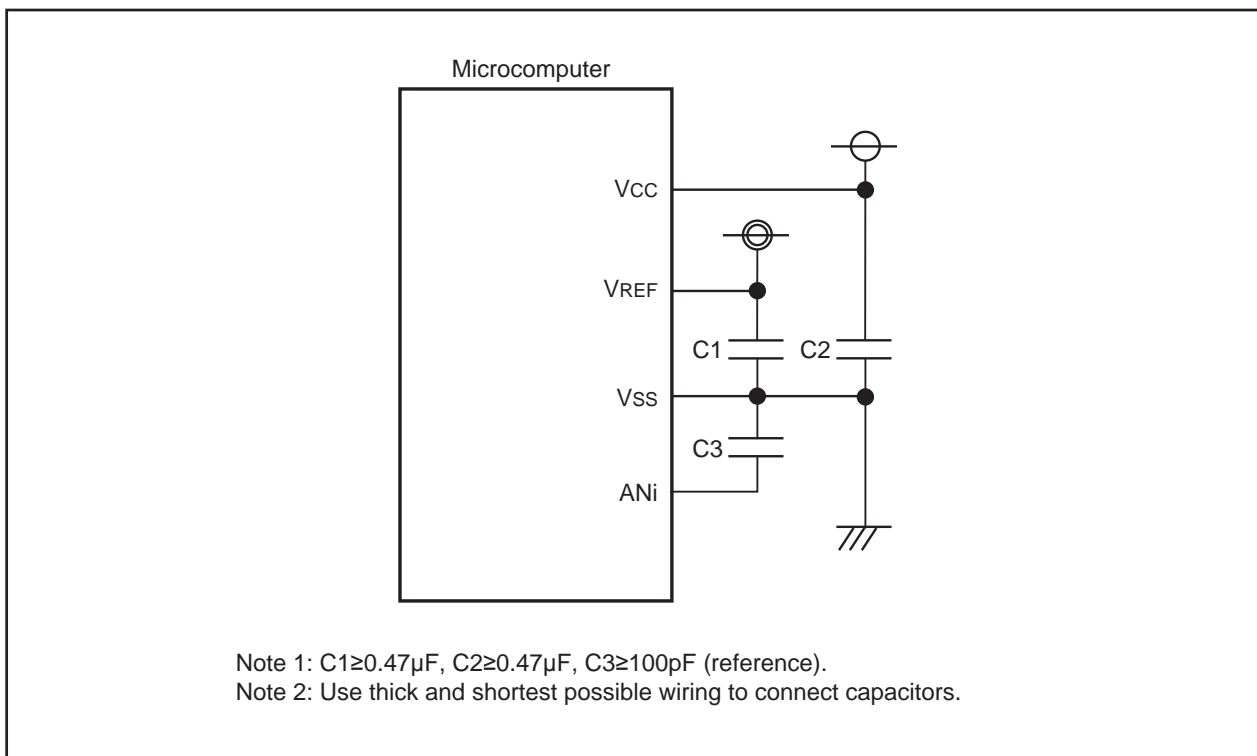

Figure 20.1 Example connection of each pin
2. To prevent noise-induced device malfunction or latchup, as well as to reduce conversion errors, insert capacitors between the VCC, VREF, and analog input pins (ANi) each and the VSS pin. Figure 20.1 shows an example connection of each pin.